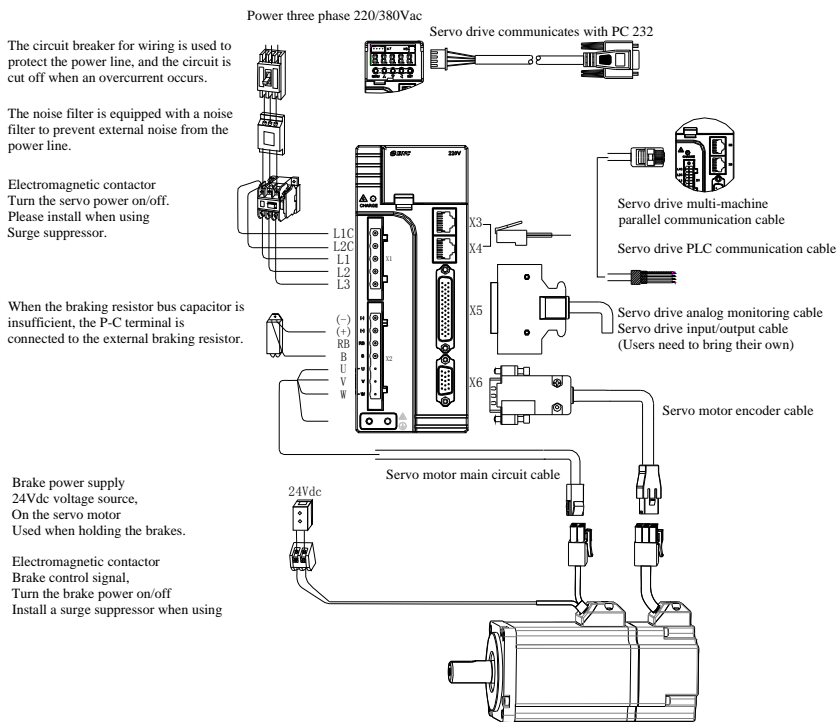

Fig.3-3 Servo system wiring
(1) When using external braking resistance, please refer to Fig.3-3 to connect external braking resistance after remove the short wiring between RB and Bof the the servo drivers.
(2) Fig.3-3 is the wiring diagram for 3PH 220V/380V Servo Drive. If choose single phase 220V Servo Drive, please connect any two phases in the main terminals of L1, L2 and L3.